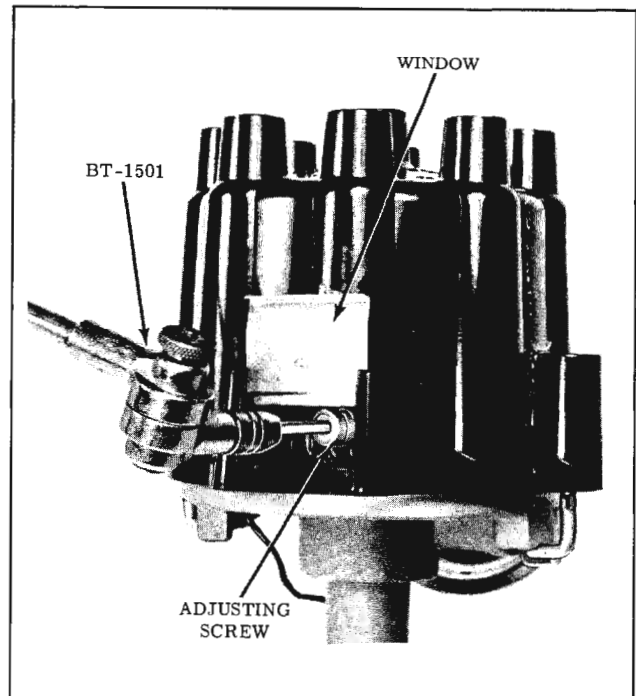

Fig. 14-114 Adjusting Dwell
3. With the engine running at idle speed, insert Dwell Adjusting Tool BT-1501 into the head of the adjusting screw as shown in Fig. 14-114 and adjust dwell angle to  $30^{\circ}$ .
- d. Adjust dwell to 30° using Tool BT-1501 as shown in Fig. 14-114.